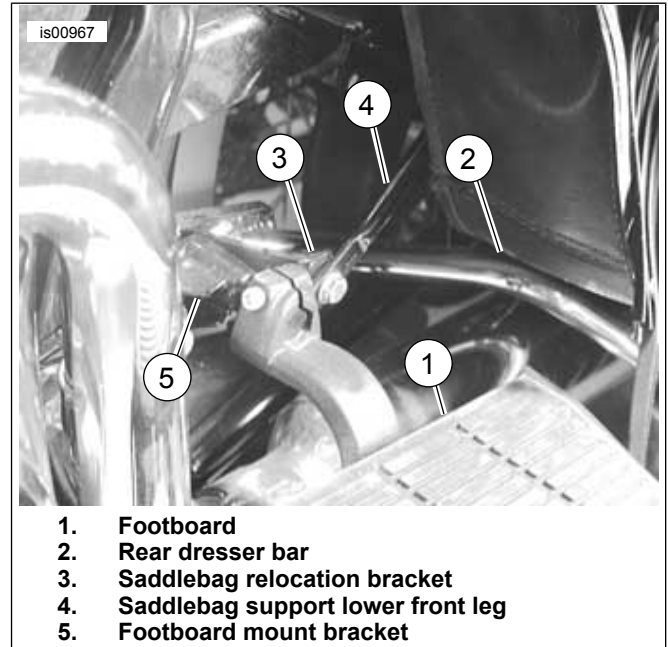

Figure 2. Saddlebag Relocation Bracket Installed
4. See Figure 2. Position the 3/8 in. diameter round hole end of saddlebag relocation bracket (from kit) against inboard surface of motorcycle frame member at point where passenger footpeg (or passenger footboard mount) attaches. If dresser bar is being installed, position bottom flange of dresser bar against inboard surface of relocation bracket.
6. **On models with passenger footpeg and saddlebag relocation bracket, see Figure 2. On models with passenger footpegs and toolbox: On models with Passenger Footboard Kit (50602-00), see Figure 3.**